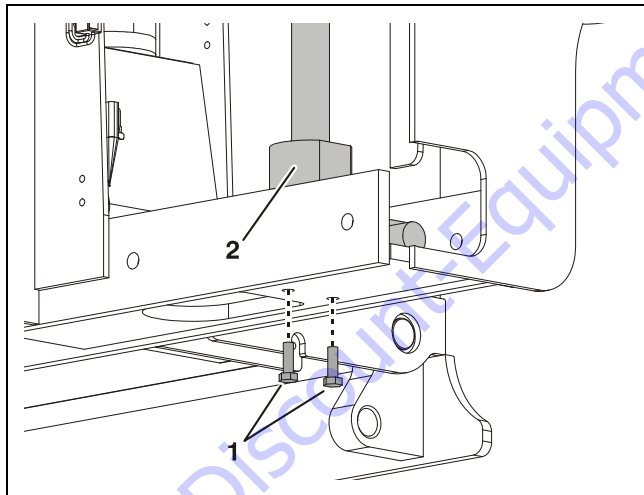

Figure 6-10. Hydraulic Cylinder Bottom End Bolts - Removal
5. Lower mast assembly down or pull cylinder rod out of cylinder #1 and align the holes in the bottom of the rod assembly with the holes in the base frame. Secure using the proper bolts, apply Loctite #242 to the threads of the rod attach bolts on final assembly. (See Figure 6-10.)